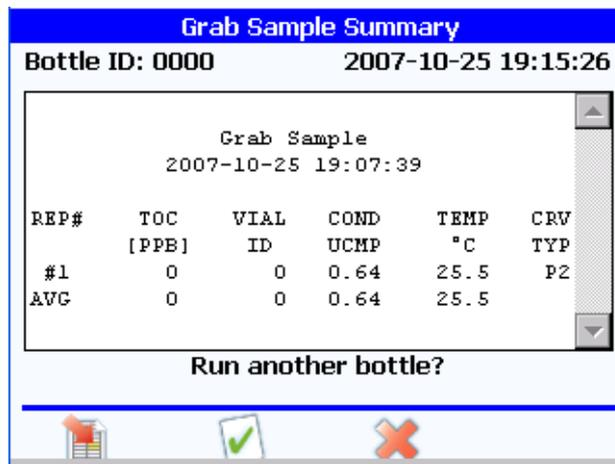

Figure 6-23 Grab sample summary dialog box
- 9) When the test is completed, the grab sample summary dialog box appears, with the results of the test. The results also appear on the printout if a printer is attached. See Figure 6-23.